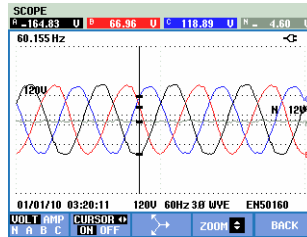

Figure 23-3. Waveform display with cursor and zoom on
- The up/down arrow keys zoom in vertical direction (Figure 23.3).